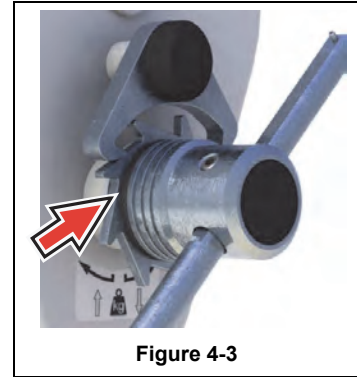

Figure 4-3
- The clutch brake lift is equipped with a load pressure brake (see Figure 4-3), which holds the load at any required height and ensures that it undergoes controlled lowering. Never lubricate the load pressure brake in any manner, this will permanently damage and disable the brake feature. The load pressure brake must remain clean and dry.